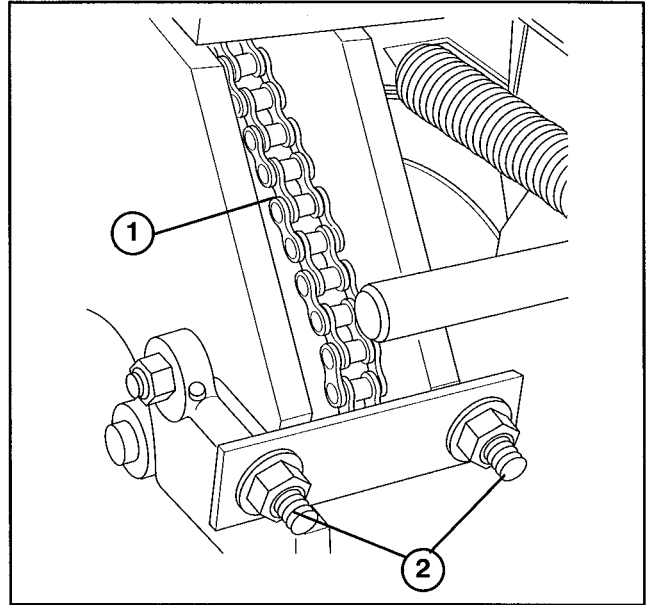

Figure 42
1. Depress chain in span between the idler sprocket and upper crank arm sprocket. Applying 8–12 lbs. of force on designated area, chain should deflect approximately .25 inch (Fig. 42)
2. Tighten or loosen each eyebolt nut to increase or decrease chain tension. Make sure each eye bolt is adjusted equally (Fig. 42).
4. To make sure eyebolts are adjusted equally, measure distance from center of idler shaft to center of upper crank shaft on both sides of shaft (Fig. 42).